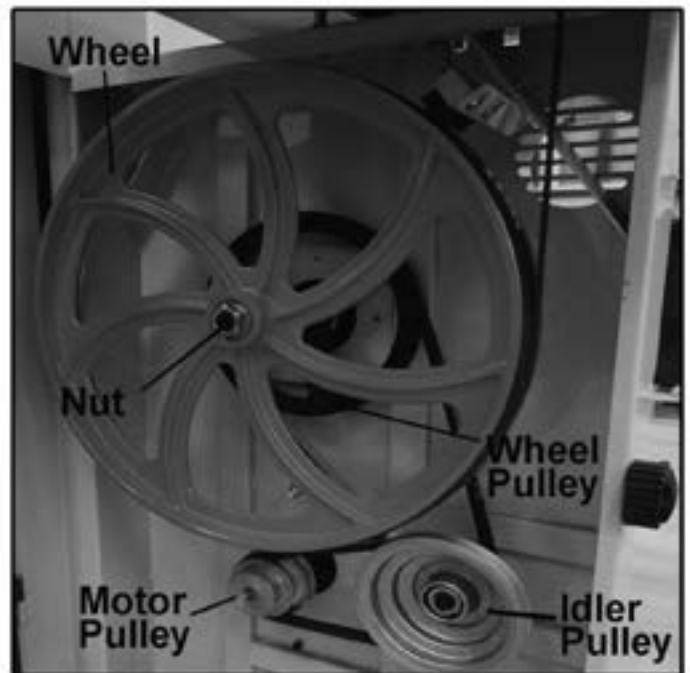

Figure-36 Lower wheel and pulleys
4. Remove the lower wheel by removing the nut bolt securing the wheel to the saw body. See figure-36.